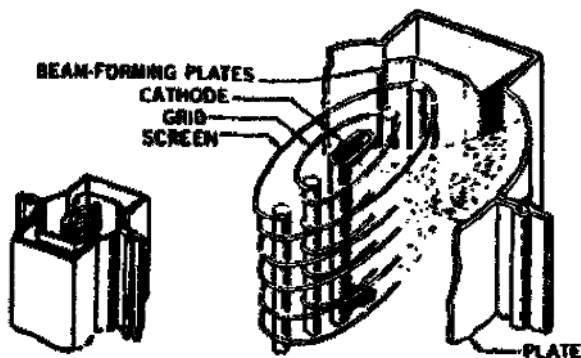

Figure 99. Construction of a beam-power tube.
21. In figure 99 a specially constructed tetrode which has a filament or cathode, control grid, screen grid, and plate is called a beam power tetrode. To eliminate